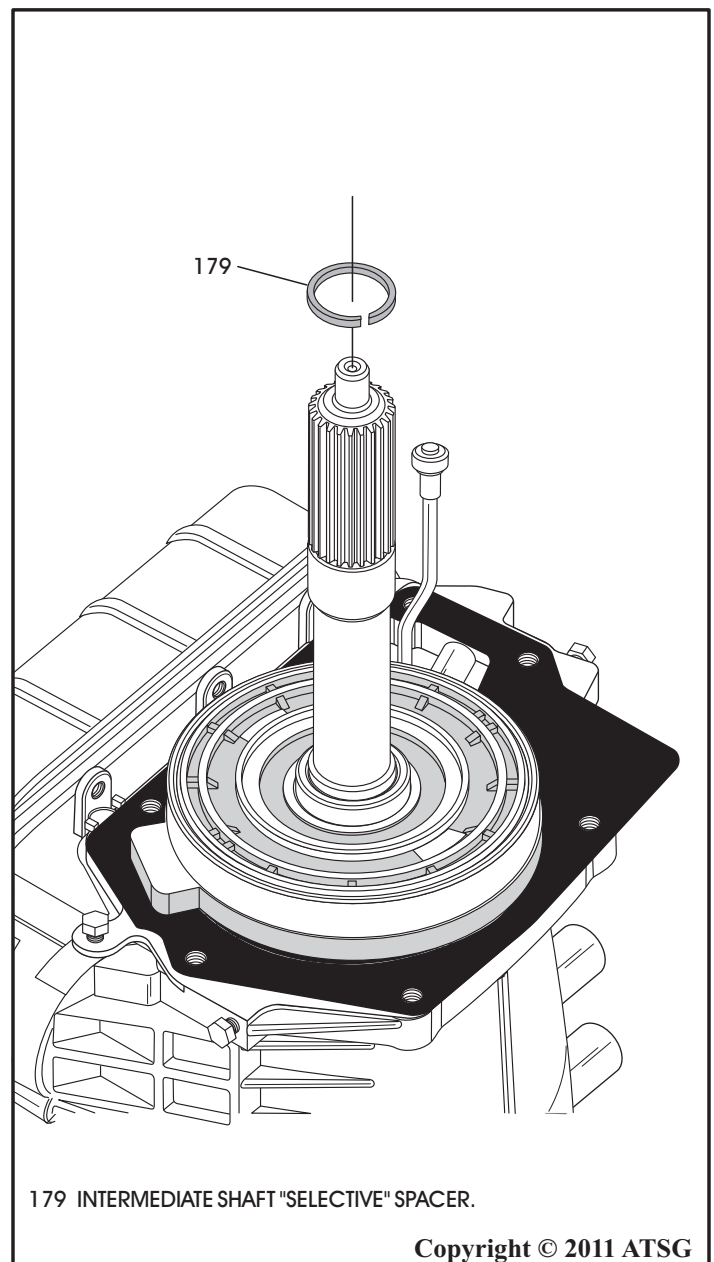

Figure 236
55. Install the selected intermediate shaft spacer onto intermediate shaft, as shown in Figure 236.